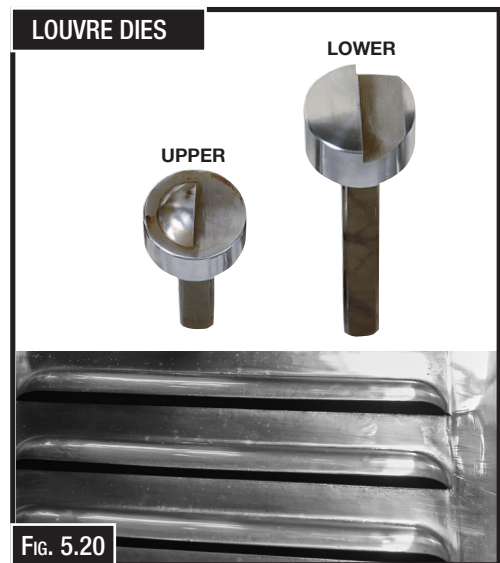

FIG. 5.20
5.9 LOUVRE DIES SET-UP (FIG. 5.20)